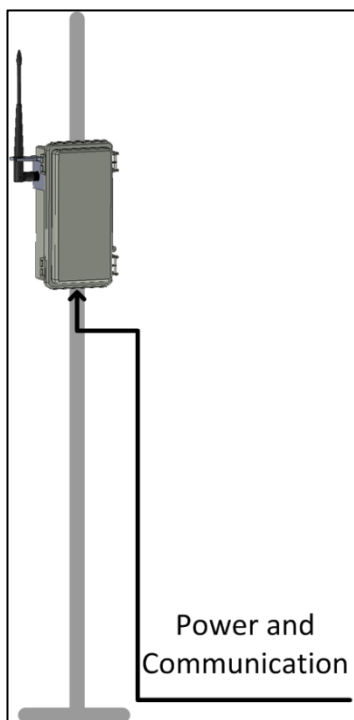

Figure 9: RLINK ONE Installed on a Pole
- Attach the RLINK ONE directly to the antenna on a pole (Figure 9).
- Option 1: Connect the antenna via the supplied RG-58 cable and antenna mounting clip (Figure 9).